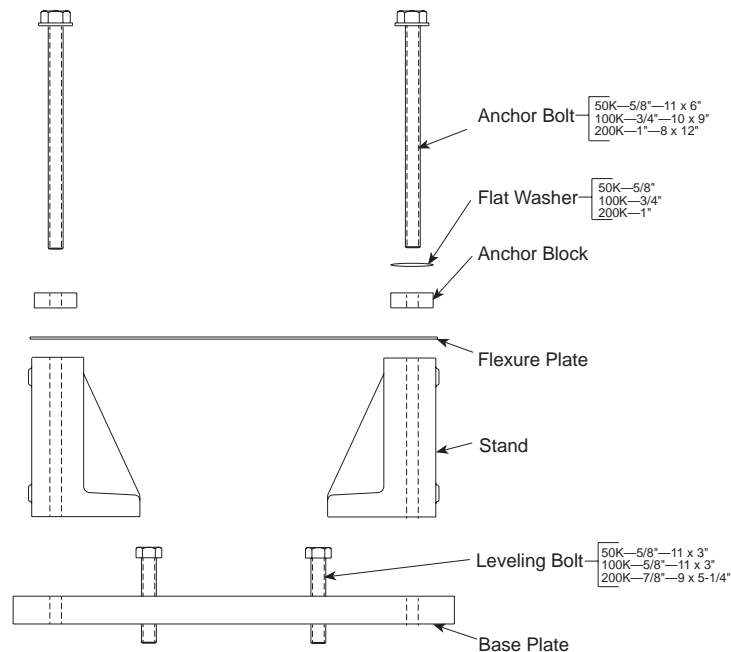

Figure 2.1 Base Plate Assembly
2. Place the two corner stands on the base plate (Figure 2.1).